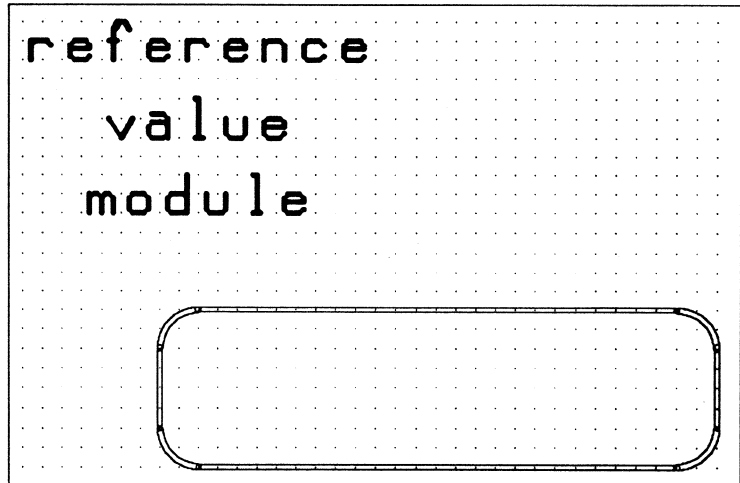

Figure 5-25. The completed module outline.
After making these revisions, the completed module outline looks like figure 5-25.
14. Select **End** to complete the module outline. Press <Esc> to dismiss the **PLACE** menu. The outline looks like figure 5-25.